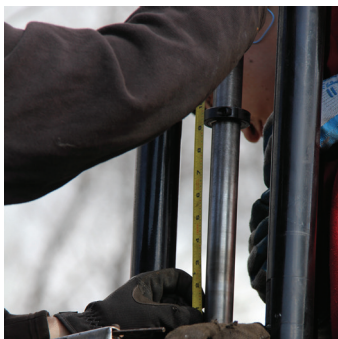

Figure 14
**3.1.8)** Tighten the stop collar to the correct measurement (see Figure 14).